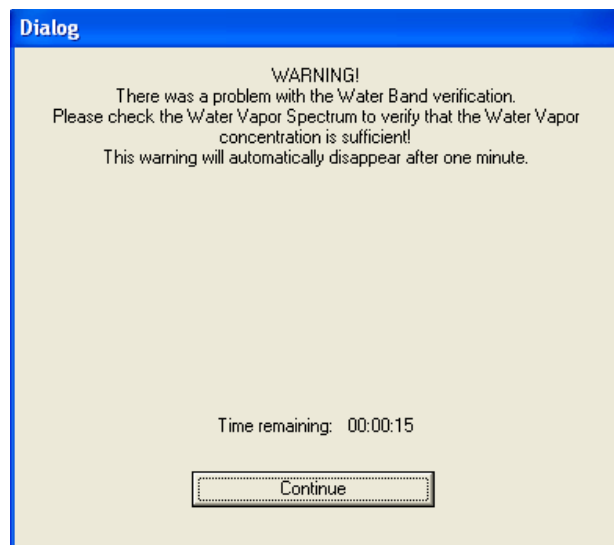

Figure 58: Warning Message regarding the Water Vapor Concentration
- If the warning message shown in figure 58 appears, it is highly recommended to check whether the current water vapor spectrum ((with spectrum file name, for example: *PQ_Tensor_37_External_Port_D316-025_Hyperion_Frequency.1*) is OK. You will find the spectrum in the following directory: *OPUS path\VALIDATION\Data\YYYYMMDD¹\HHMMSS²*. (For information about the file name of the test spectra refer to the OPUS Reference Manual.)